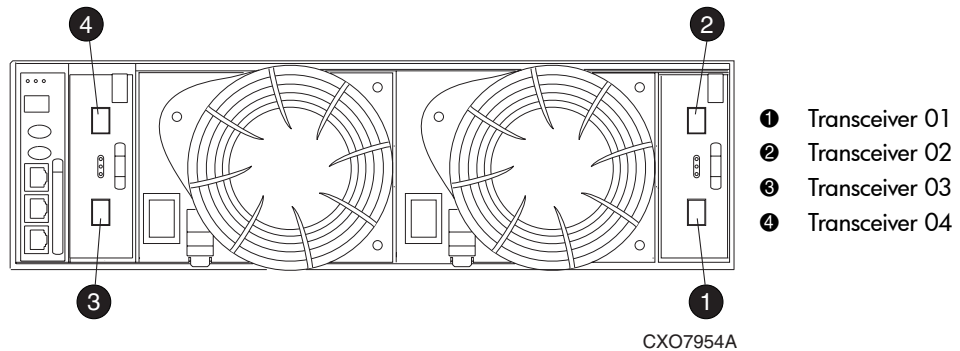

Figure 68: Transceiver element numbering
- *en.* is the two-character transceiver element number (see Figure 68)